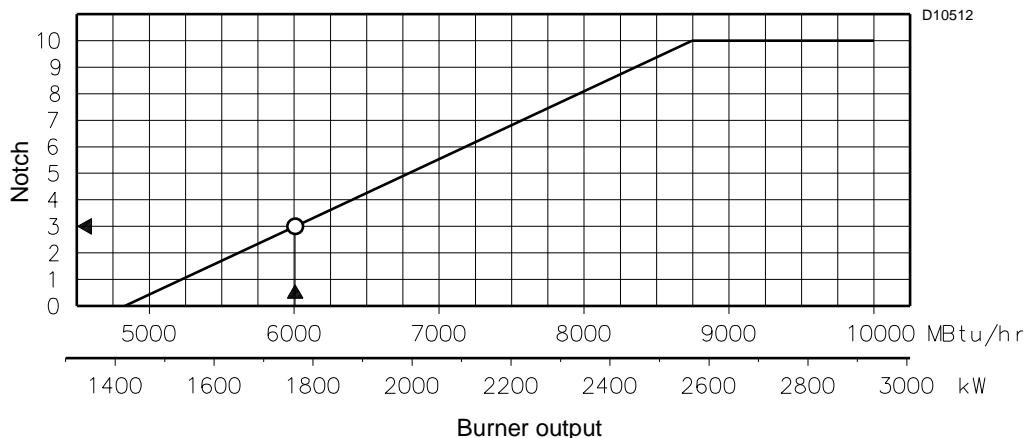
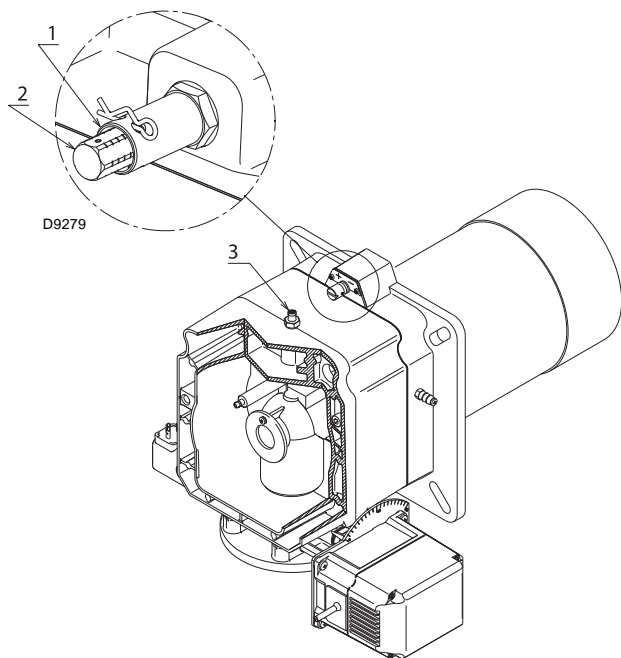

Fig. 14
Fig. 15
In the diagram of Fig. 14, find the notch at which to adjust both air and central gas/air.
Rotate the screw 2) (Fig. 15) until the notch you have found corresponds with the front surface 1) of the flange.
To facilitate adjustment, loosen the screw 3) (Fig. 15), adjust and then lock.
The diagram of Fig. 14 shows that the adjustments for this potential is external air R1 = notch 3.
- Ring nut 2)(Fig. 15) adjusted as in the diagram of Fig. 14